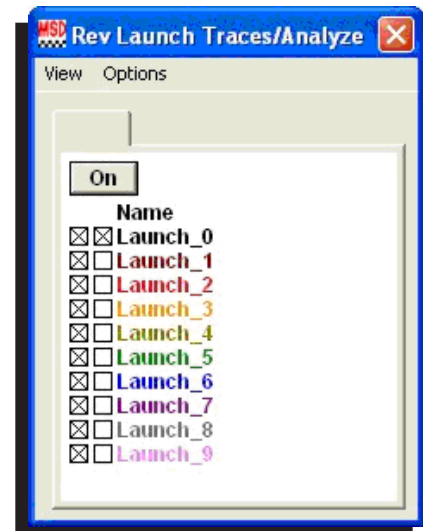

Figure 5 Trace/Analysis Controls.
- Note that the Traces box has two squares in front of each program. By selecting the left box, the curve will be displayed on the screen. All 10 curves can be displayed. The right box indicates which curve can be modified and only one can be selected at a time (Figure 5).